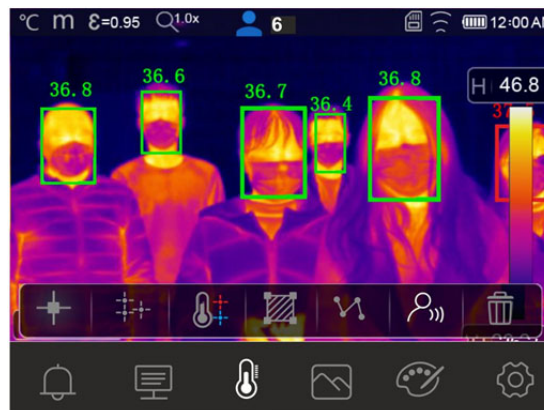

Fig. 35: Face mode on more people
7. The Face mode allows for the face temperature of several people (**up to 10 people**) to be evaluated at the same time (see Fig. 35). The counter “ 6” found at the top of the display indicates the number of statistically valid detections.